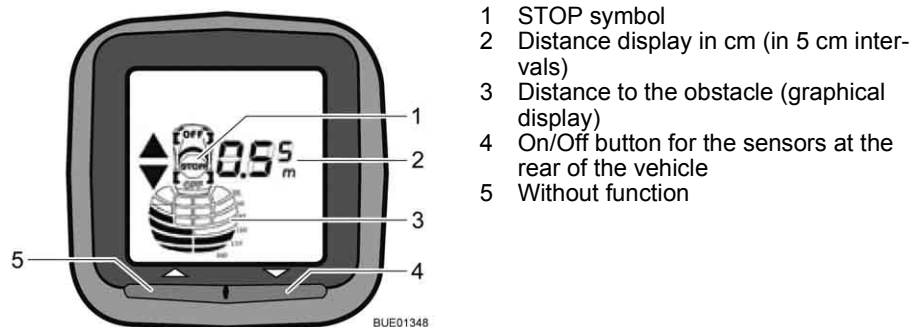

Fig. 18 Park Boy V display unit
In the passenger compartment, a display unit (Fig. 18) shows the distance to the obstacle. At the same time, an acute signal sounds as a warning.
- Press the On/Off button (Fig. 18,4). The display illuminates and the vehicle symbol appears in the display. The parking distance control is ready to measure.
- Press the On/Off button (Fig. 18,4). The parking distance control can be switched off at all times independent of the selected switch-on method using the On/Off key.
The distance between the vehicle and the obstacle is issued in three ways: The display (Fig. 18) shows the distance in steps of 5 cm. The shortest distance measured by a sensor is shown.